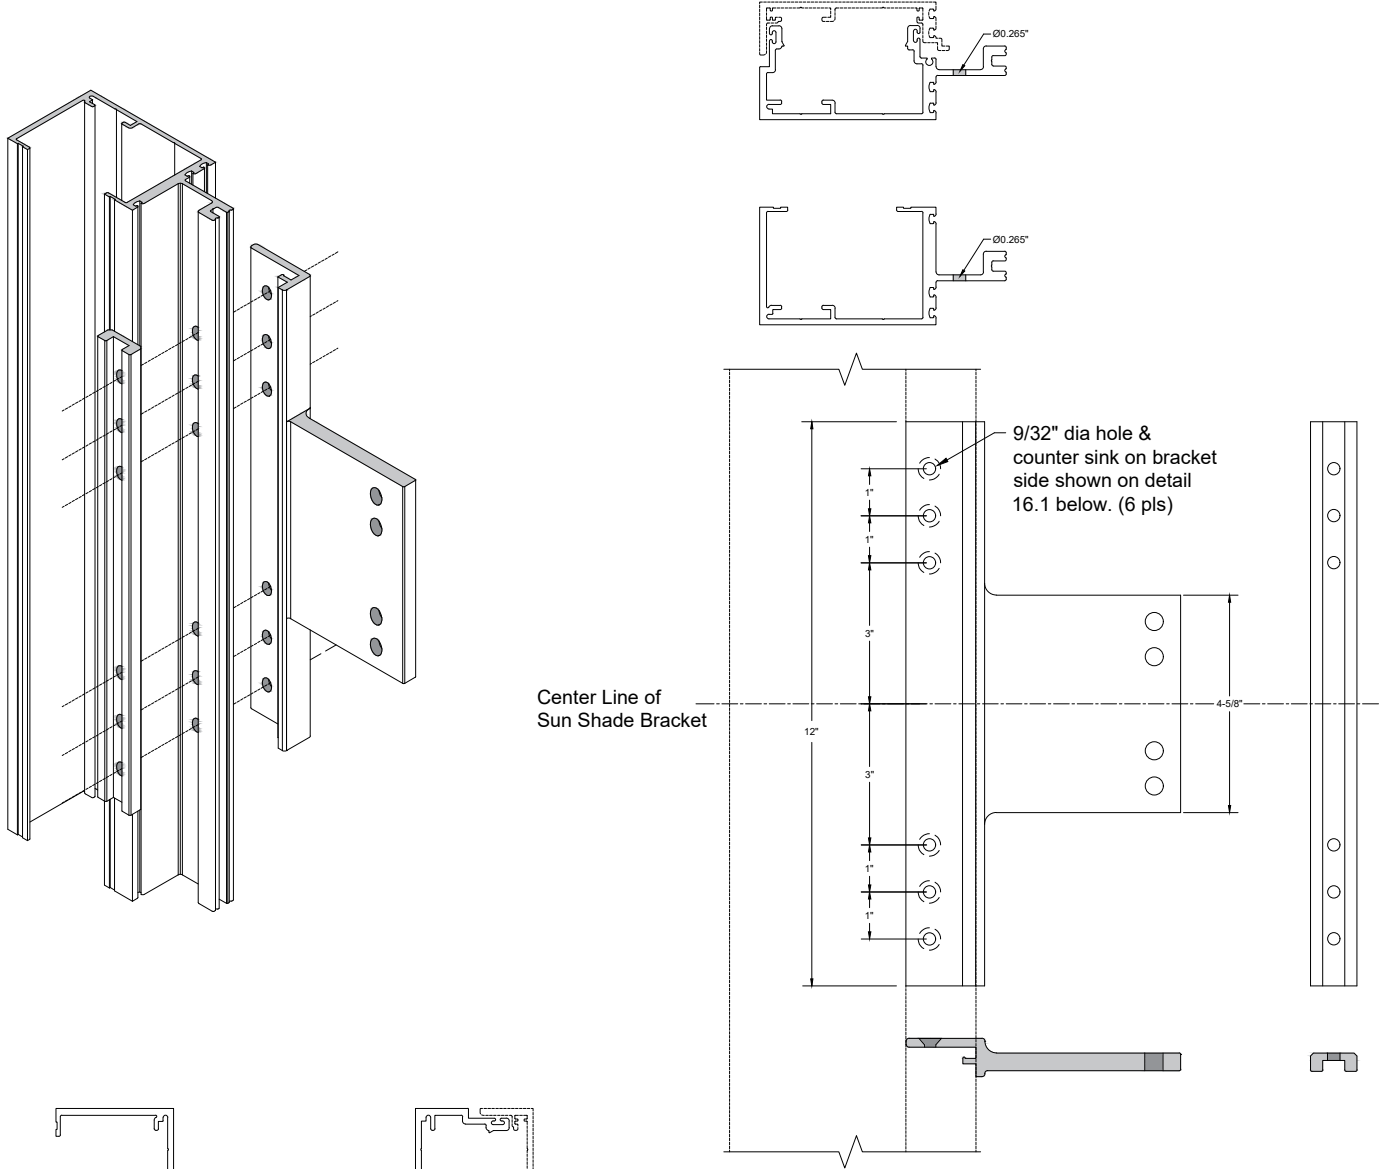

FIG. 16.1
- 1) Locate center line of sun shade bracket on vertical mullion, mark and drill 9/32" diameter clearance hole, FIG. 16.1.